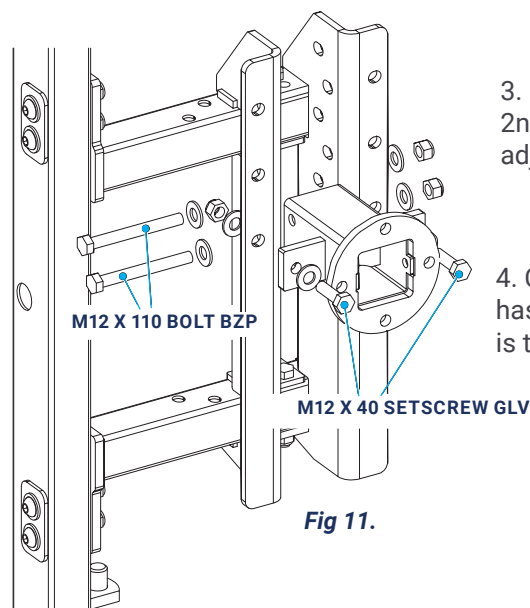

Fig 11.
3. Fix the Superscoop bracket to the channel using 2no M12 x 110 bolts and 2no M12 x 40 setscrews (Fig 11). The height of the Superscoop arm can be adjusted by using the other available holes (see page 5).